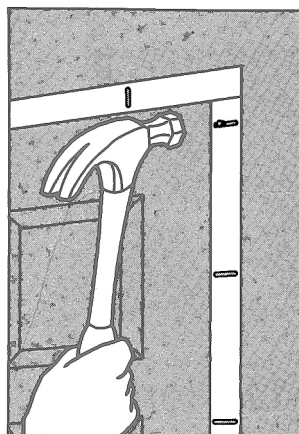

Figure 6E-1
6. Recheck the squareness of the door. If the door is square, hammer the provided nails through the slots in the metal door frame to firmly attach the frame in the opening (Figure 6E-1).